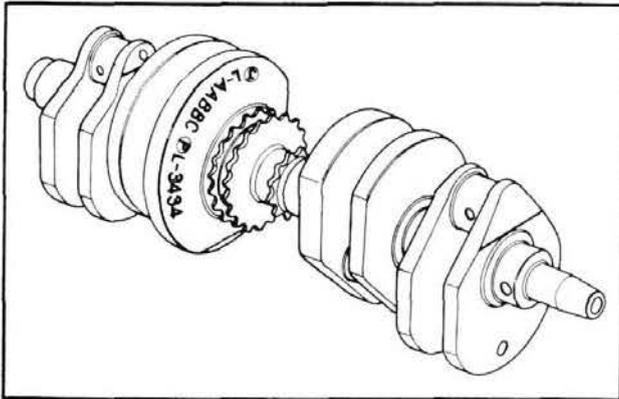

Fig. 3-81
The size marks of crankshaft journals were changed from 1 (I) □ (RO) 八 (HA) and 二 (NI) to A, B and C. These marks are stamped on the side of the crank weight on the drive sprocket side together with the crankpin size marks. (Fig. 3-81)
- Numbers (3, 4, 5) are stamped on the side surface of the crank weight, this indicates the crank pin size. (Fig. 3-81)